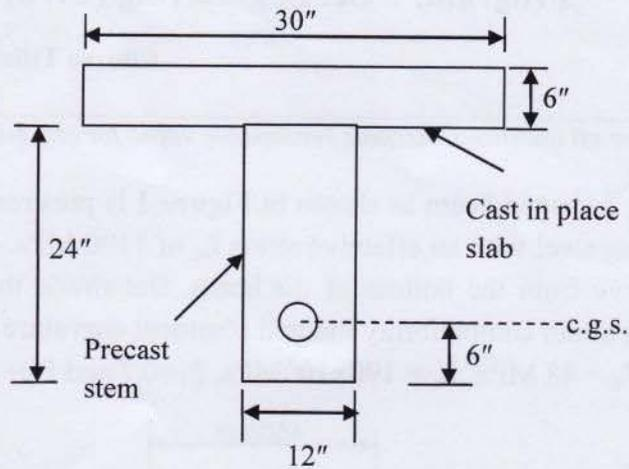

Figure: 2
- (b) Briefly explain about the sources of losses of prestress in prestressed concrete member. (5)
2. (a) A section of simply supported composite beam is shown in **Figure 2**. The precast stem is (20) prestressed with an effective force of 400 kips assuming a total loss as 15%. Compute the stresses in the section at different stages of loading and also draw the stress distribution at these stages if the bending moment at the section are as follows: